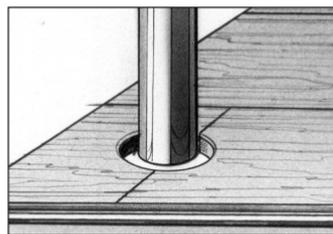

Fig. 39
- Cut across the piece through the center of the hole (Fig. 39).